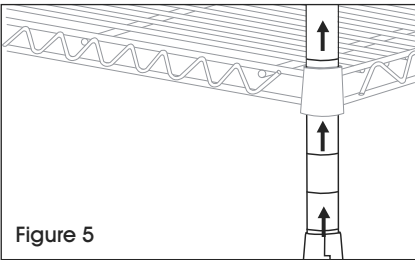

Figure 5
2. Slide post through underside of shelf until shelf slides firmly over supports. (See Figure 5)